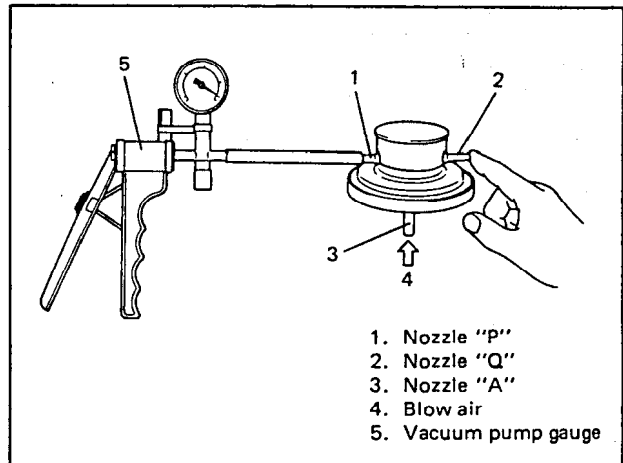

Fig. 6E-142 Checking EGR Modulator (2)
4. After checking, install modulator and connect hoses securely. Refer to Fig. 6E-86 for connection.